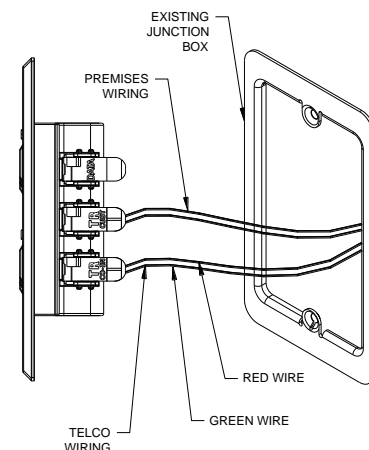

Figure 2
3. Turn the 761-4T-12, 761-4T-12K so the IDC rocker is facing you (See Figure 2).
4. Pull up the bottom IDC rocker to the fully open position, insert Telco wires as shown in Figure 2 until they bottom out, do not strip wires.
5. Insert premises wiring to the middle IDC as shown in Figure 2.